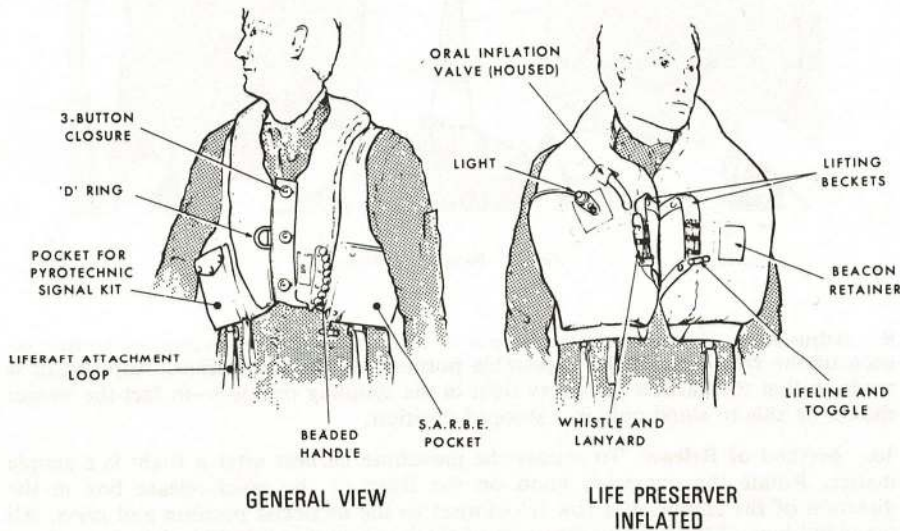

Fig 15 Life Preserver Waistcoat
11. **Description.** The life-preserver consists of a waistcoat worn over the flying overalls by aircrew of aircraft flying over or near the sea. It contains a stole which is inflated automatically from a carbon dioxide cylinder when the beaded handle is pulled sharply downwards. An oral inflation valve allows for topping-up—by the wearer blowing into it—or the release of air from the stole (Fig 15). The stole, when inflated, will float a survivor in a safe and comfortable attitude whatever the state of the water. The survivor's head has all round support. The body takes up an angle of approx 45° to the surface, face up, weathercocks to face oncoming waves and rides up and down with them. It will also turn an unconscious survivor right way up from a face down position.